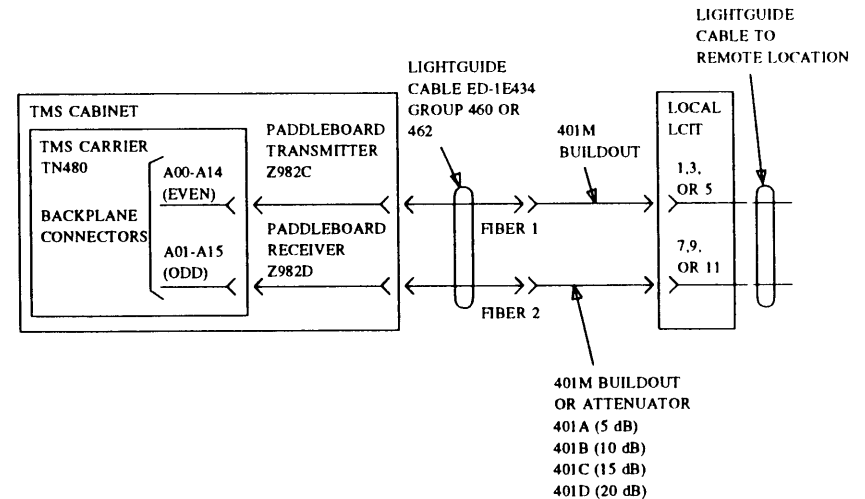

Figure 12-53. Central TMS Fiber-Link Connections for Unduplicated Module Control (Phases 1 and 2)
Install the TMS fiber link(s) for the central location from the TMS carrier(s) to the central LCIT. Figures 12-53 and 12-54 show the connections for an unduplicated and duplicated system. The cable must be loosely supported to prevent damage. The fiber-optic cable has a minimum bend radius of 1.5 inches.
Use the CSD to determine the connector pins that are used on TMS carrier(s) for the TMS fiber link to each remote module. If CSDs are unavailable, table 12-28 can be used to determine this information for an unduplicated system. Tables 12-29 and 12-30 can be used to determine this information for a duplicated system. Look up the module number of each remote module in the appropriate table, and use the corresponding TMS carrier and pin numbers to connect from the TMS backplane to the LCIT as shown in figures 12-53 and 12-54. The number of a remote module is determined by the module that is in the system.
5. Connect the fiber-optic cables to the appropriate attenuator as shown in figures 12-53 and 12-54.